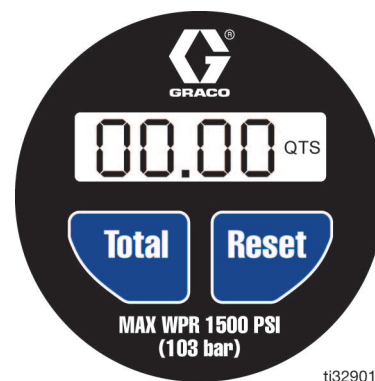

FIG. 5
The digital display also activates when fluid is run through the meter. The quantity increases from the last dispense cycle, if the quantity was not cleared manually (FIG. 5).
Press RESET to clear the quantity of the last dispense cycle and return the digital display to zeros (FIG. 5).
2. When the desired UOM is displayed, press RESET (FIG. 5) to save the selection.